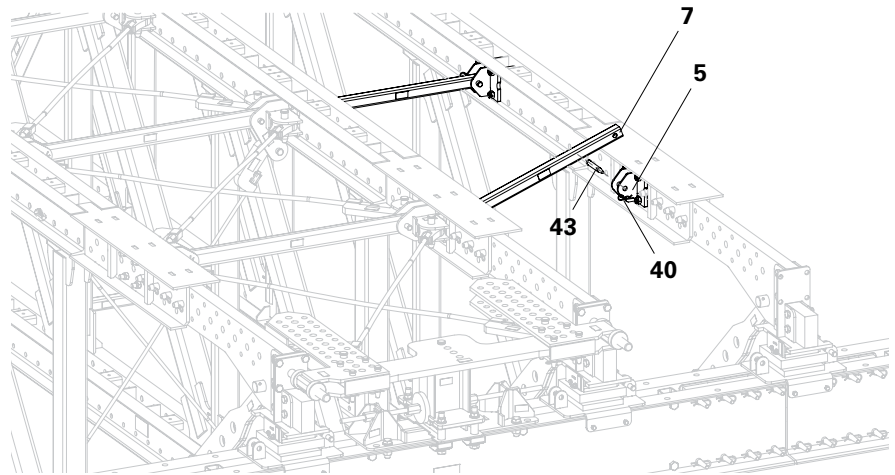

Fig. B3.01
1. Fold Coupling Posts (7) upwards. (Fig. B3.01)
2. Connect all Coupling Posts (7) in the top and bottom chords to the Coupling Shoe (5).
3. Insert fitting pins (43) and secure with cotter pins (40).